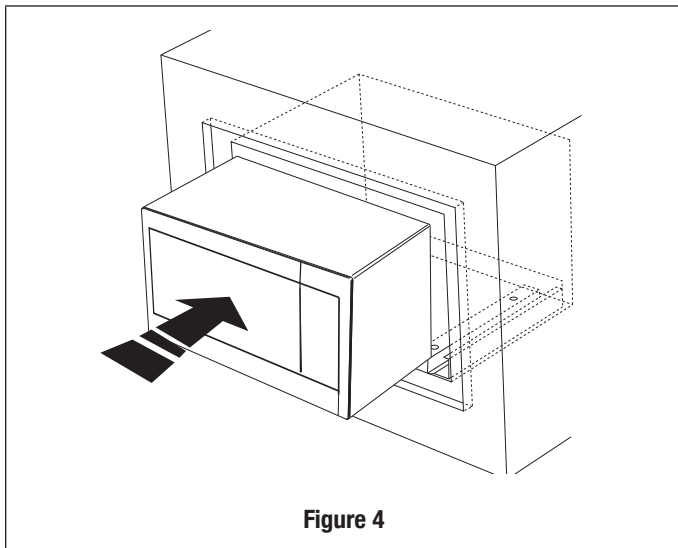
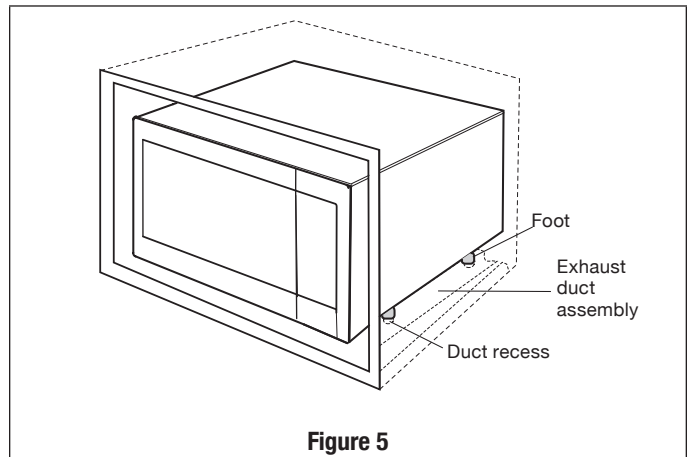

Figure 4
Figure 5
2. Carefully guide the assembled oven into the prepared opening. Slide the oven onto the EXHAUST DUCT ASSEMBLY. See Figure 4. Avoid pinching the cord between the oven and the wall. Adjust the position of the oven so that the feet of the oven are fitted into the recesses of the EXHAUST DUCT ASSEMBLY and the door opens properly. See Figure 5.
2. Carefully guide the assembled oven into the prepared opening. Slide the oven onto the Exhaust Duct Assembly. See Figure 4. Avoid pinching the cord between the oven and the wall. Adjust the position of the oven so that the feet of the oven are fitted into the recesses of the Exhaust Duct Assembly and the door opens properly. See Figure 5.